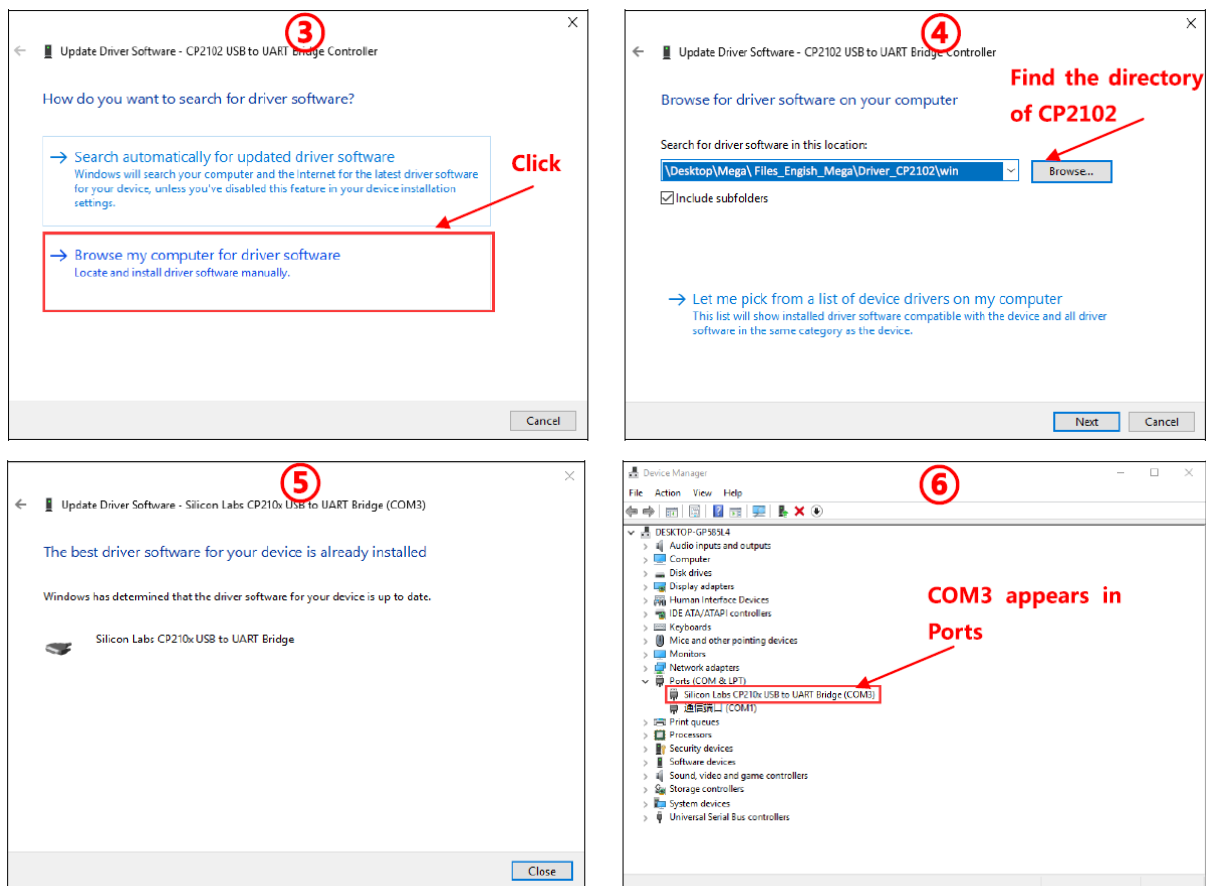
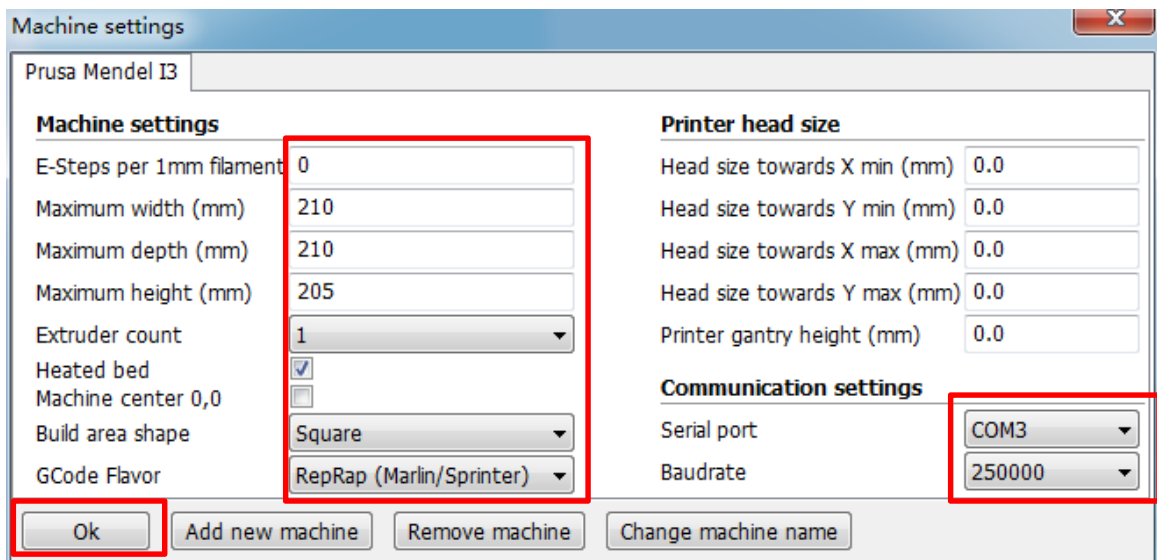

Figure 18
Figure 24
On PC, right click on "Computer"-->"Properties"-->"Device Manger", and then follow the steps as shown in **Fig.18**.
(1) Machine settings
Refer to **Fig. 24**, click “Machine” ---> “Machine settings” to input those suggested parameters into the corresponding column. Please choose the Serial Port (COM) as shown in your PC → Device Manager → Port (refer to **Fig. 18** -⑤), customers may have a different COMx other than the example COM3), and set the Baudrate to 250000. Those two parameters are essential for Cura to connect to the printer.